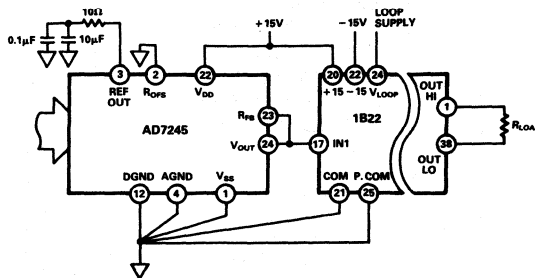

Figure 7. D/A Converter - Isolated 4-20 mA Interface
**Isolated D/A Converter:** The 1B22 offers total ground isolation and protection from high voltage transients in interfacing D/A converters to standard 4 to 20 mA current loops. The D/A converter, such as the Analog Devices' 12-bit AD7245 DACPORT™, should be connected for operation on the unipolar 0 to +10 V output range. This is shown in Figure 7.